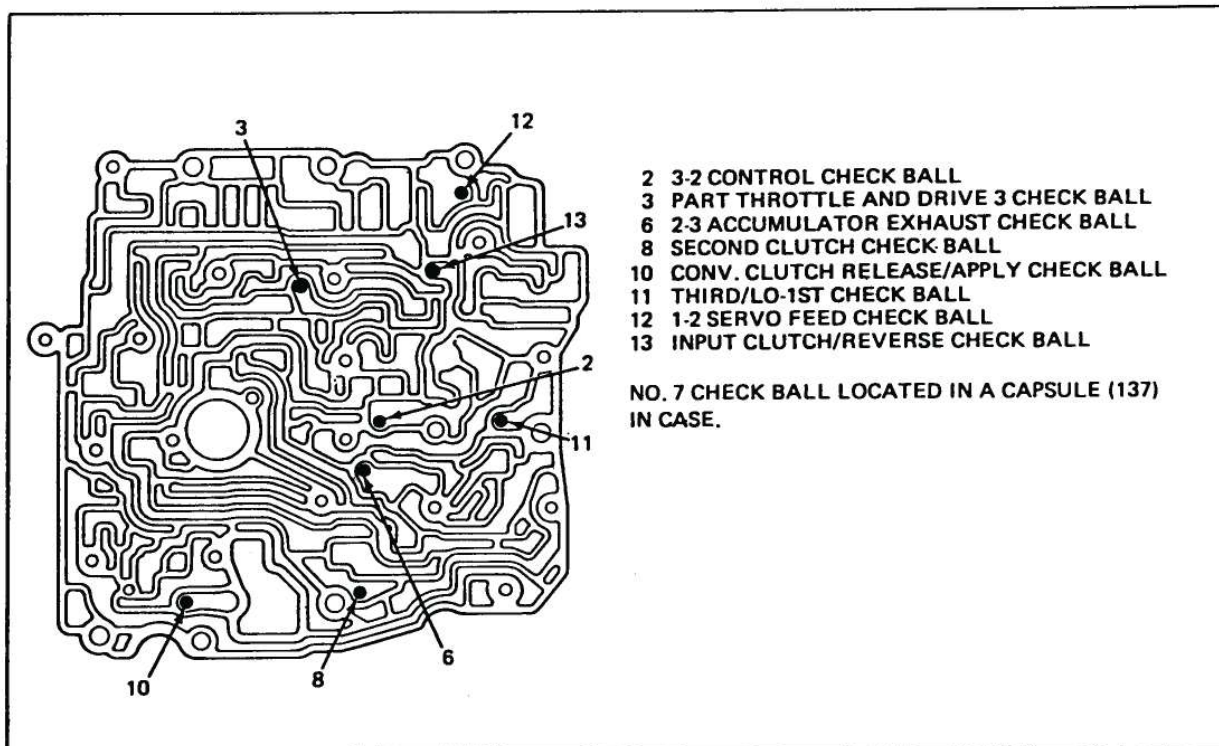

Figure 41
15. See Figure 41 for channel plate check ball locations.